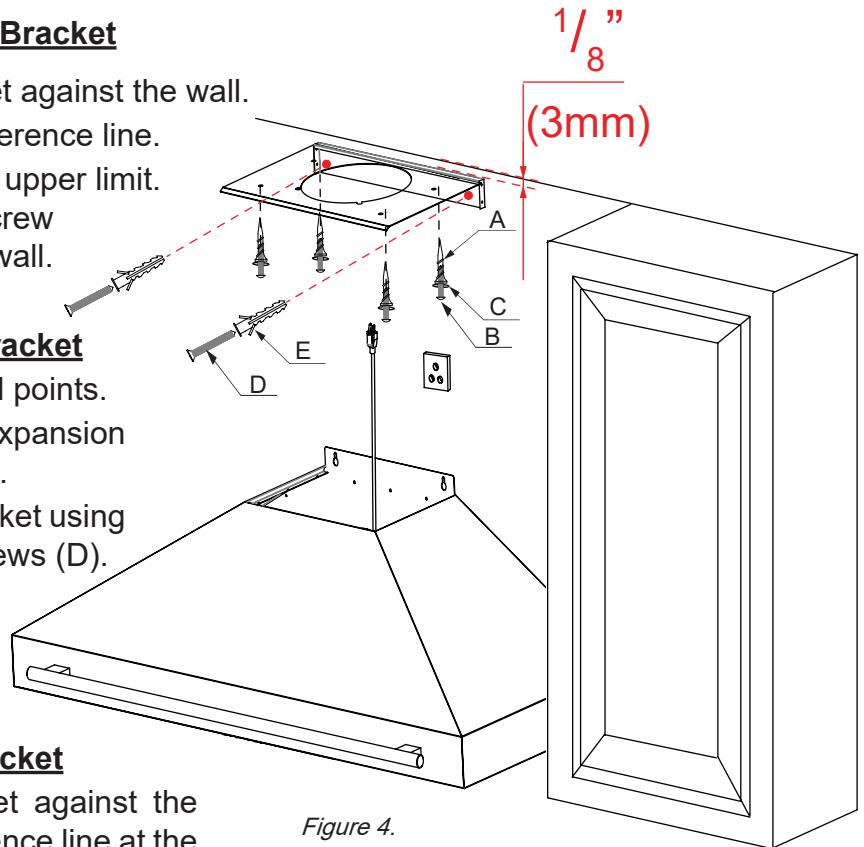

Figure 4.
- See Figure 4.
- Insert the $\Phi 0.236" \times 1.142"$ plastic expansion tubes (E) fully into the drilled holes.
- Secure the chimney mounting bracket using the ST#3.5 $\times 1.18"$ self-drilling screws (D).
- Insert the $\Phi 0.51" \times 1.61"$ spiral plastic expansion anchors (A) fully into the wall.
- Place flat washers (C) over the mounting holes.
- Fasten the bracket using the #6-32 $\times 1-3/8"$ pan head screws (B) through the washers into the anchors.
- Check that the bracket is level and securely fixed. See Figure 4.